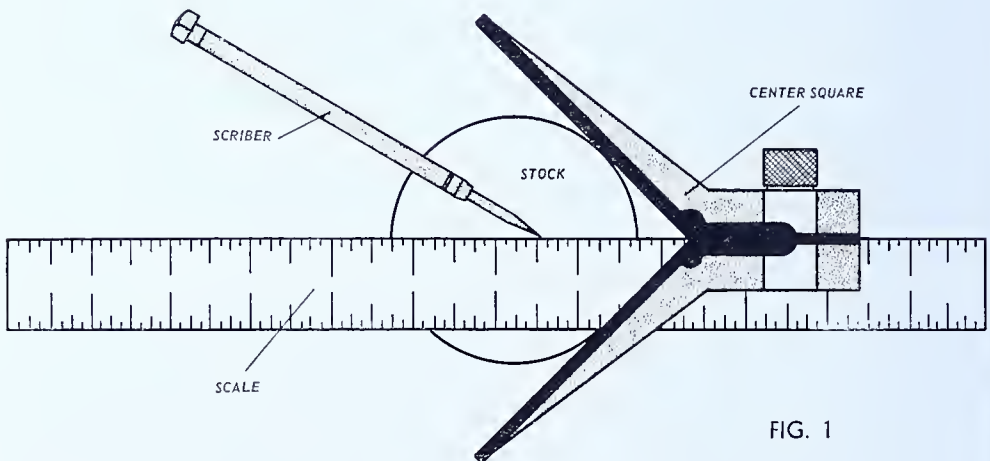

FIG. 1
5. Hold both legs of the center square against the surface of the work and with a scribe draw a line along the edge of the scale (Fig. 1, on opposite page). Move the center square so that it will be at a right angle to the line drawn. Draw another line (Fig. 2 below). The intersection of these lines marks the center.